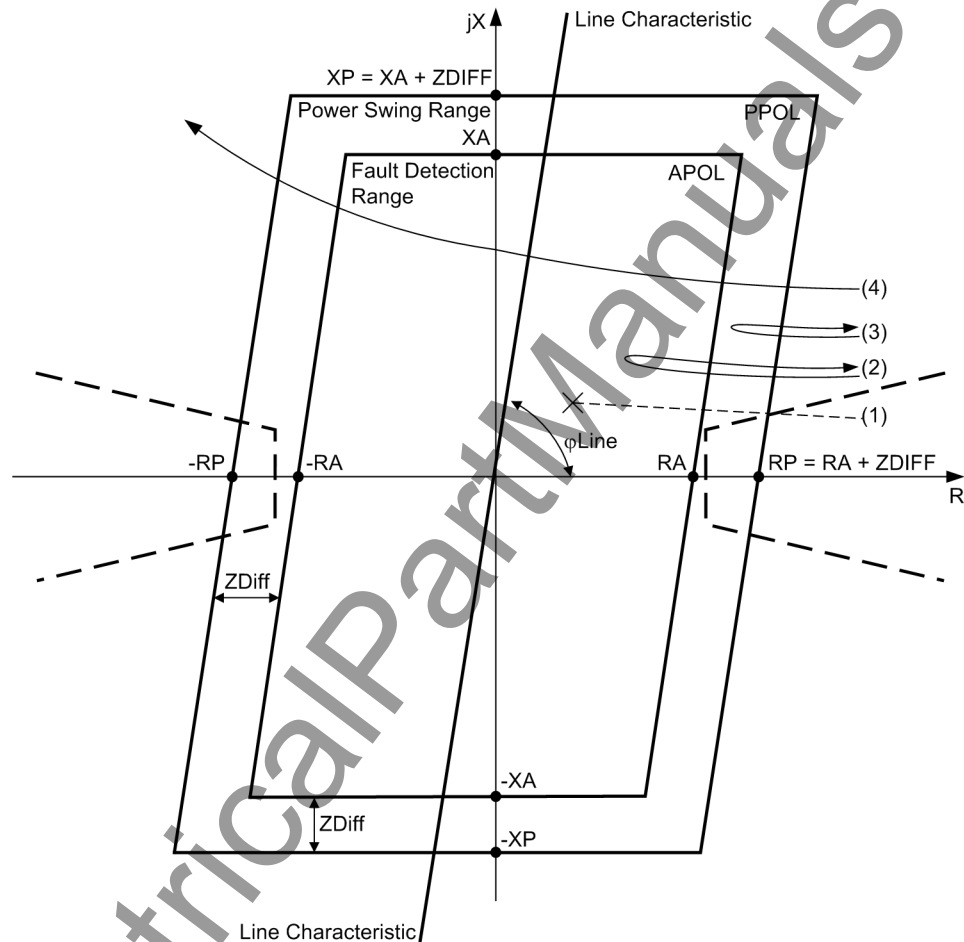

Figure 2-76 Pickup characteristic of the power swing detection for a polygon.
To detect a power swing, the rate of change of the impedance vectors is measured. The indication is triggered when the impedance vector enters the power swing measuring range PPOL (refer to Figure 2-76) and the other criteria of power swing detection are met. The fault detection range APOL consists of the largest setting values for R and X (polygon characteristic) or of the largest setting value for ZR (MHO characteristic) of all activated zones. The power swing zone has a minimum distance Z_{Diff} of 5 Ω (at $I_N = 1$ A) or 1 Ω (at $I_N = 5$ A) in all directions from the fault detection zone. In the event of a short-circuit (1), the impedance vector abruptly changes from the load condition into this fault detection range. However, in the event of a synchronous power
When the impedance vectors identified by the power swing detection exit the power swing characteristic PPOL, the sign of the R components in the vectors are checked to see if they are the same on exiting and entering the pickup polygon. If this is the case, the power swing process is inclined to stabilize. Otherwise, the vector passed through the power swing characteristic (loss of synchronism, case (4) in Figure 2-76). In this case power transmission is no longer possible. The device outputs an indication to that effect (No. 4163 „P.Swing unstab.“), provided that the parameter at address 2006 **PowerSwing trip** is set to **NO**. Indication No. 4163 „P.Swing unstab.“ is a pulse with a duration of approx. 50 ms, which can also be processed further via output relay, e.g. for a cycle counter or a pulse counter.